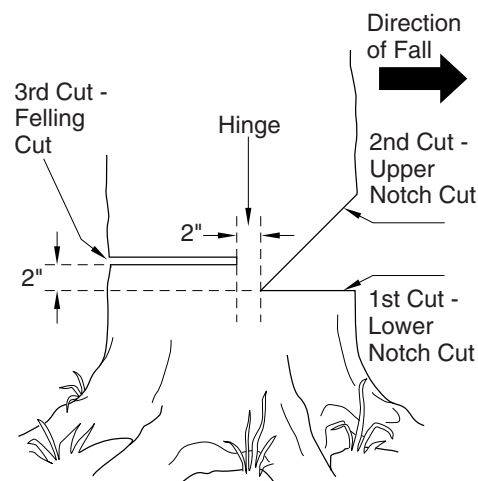

Figure 11 - Felling A Tree
A properly placed felling notch will determine direction tree will fall. Place felling notch on side of tree in direction you want tree to fall (see Figure 11). Follow directions on page 16 to create a felling notch.
1. Make lower notch cut as close to ground as possible. Hold saw so guide bar is horizontal. Cut 1/3 the diameter of tree trunk (see Figure 11). *Note:* Always make this horizontal lower notch cut first. If you make this cut second, tree can pinch chain or guide bar.
Example: If lower notch cut is eight inches deep, start upper notch cut eight inches above it. Cut downward at 45° angle. The upper notch cut should meet end of lower notch cut (see Figure 11).
⚠ WARNING: Do not cut all the way through tree. Leave about two inches of tree diameter uncut directly behind felling notch (see Figure 11). This uncut portion acts as a hinge. The hinge helps keep tree from twisting and falling in wrong direction.
1. Make felling cut two inches higher than lower notch cut and on opposite side of tree (see Figure 11). Keep felling cut parallel to lower notch cut.